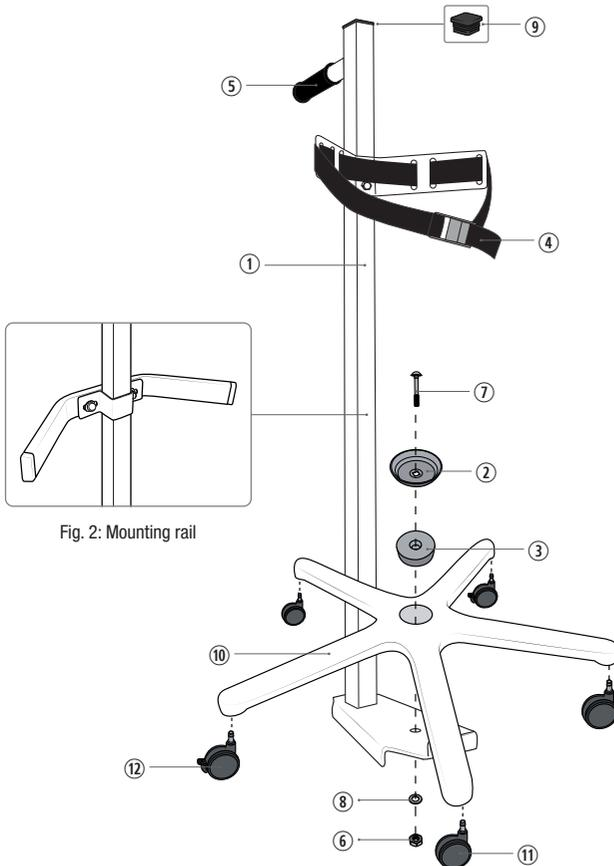

Fig. 1: Safety transport trolley
- 3.3.3.2 Position the clamp (2) below the belt at the desired height around the square tube of the upper frame (see chapter 3.2. Fig. 1 and Fig. 2). The open side of the clamp points to the handle of the safety transport trolley.